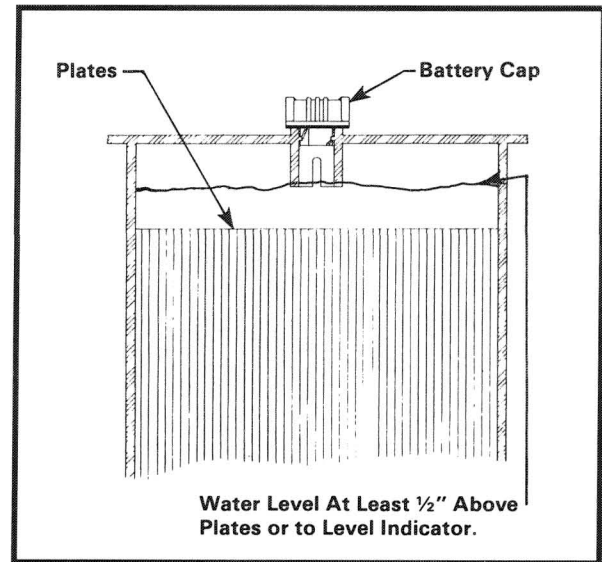

Figure 21
2. The water level in the batteries should be checked weekly (See Figure 21 for proper level). Add water only after charging unless the water level is below the top of the plates. In this case, add just enough water to cover the plates, charge and then check the level again. For maximum battery life, add only distilled water to the batteries.